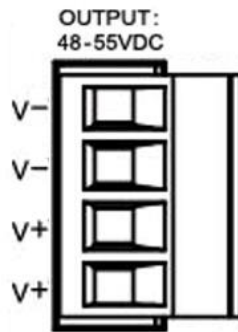

Figure 2.6: Power Terminal Block
- Step 1 Insert the positive and negative wires into the PWR (V-, V-, V+, V+) contacts on the terminal block connector as shown below in Figure 2.6.